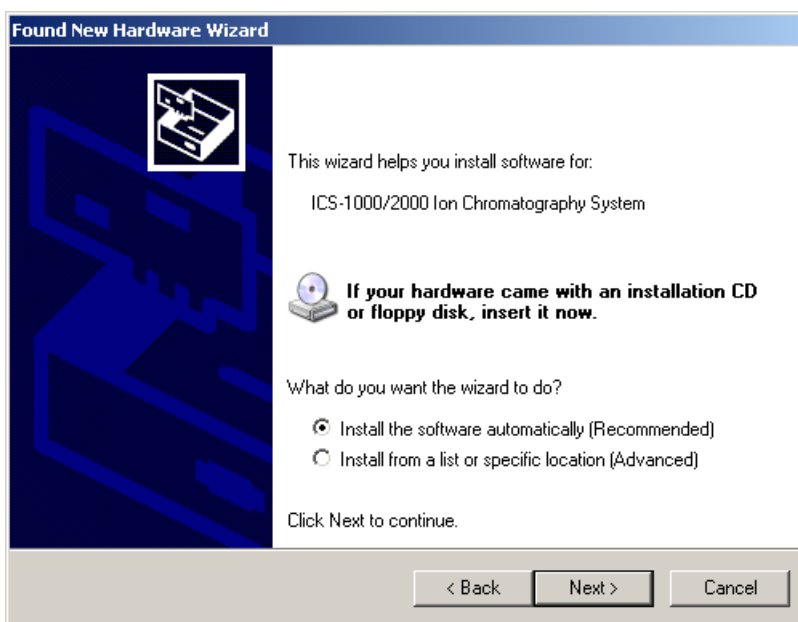

Figure 10. Windows Found New Hardware Wizard
- It is not necessary to insert a hardware installation CD or floppy disk. When asked, simply select the **Install the software automatically (Recommended)** option (see Figure 10).